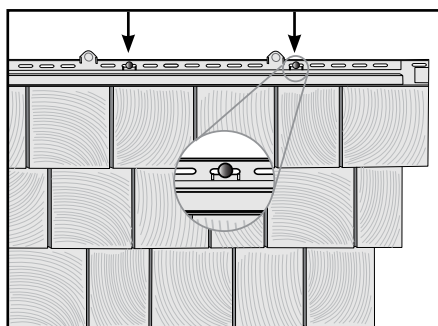

figure 3
3. Fasten the panel to the wall by first nailing through the round center hole in the nailing hem at the top of the panel. Continue nailing the panel with 5 nails: one in the right-end nail slot and one at each of the QuickReference™ Nail Mark Indicators (figure 3). Leave 1/8" to 1/16" between the nail heads and the panel to allow freedom of movement during normal expansion and contraction. The T5 panel features NailStop™ to guide in correct nail head clearance.